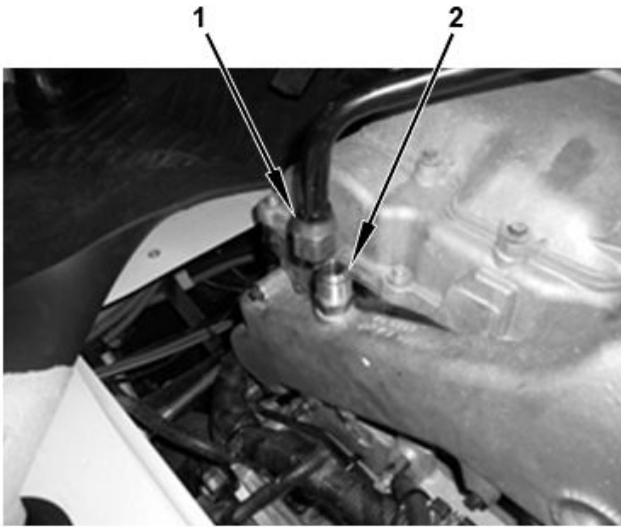

Figure 7. Cab Heat Tube.
9. Disconnect cab heat tube (Figure 7, Item 1) from heat tube nipple (Figure 7, Item 2) on coolant manifold.